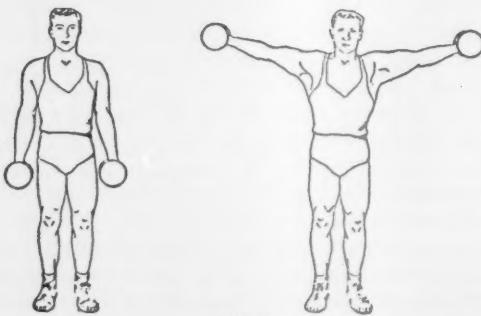

Fig. 10.
- **Lateral Arm Raise** (shoulders) (Fig. 10). Hold a dumbbell in each hand with palms facing each other and arms hanging at sides. Raise your arms out and to the side until they are above shoulder level. Now, return to the starting position. Keep your arms extended and locked at the elbows.